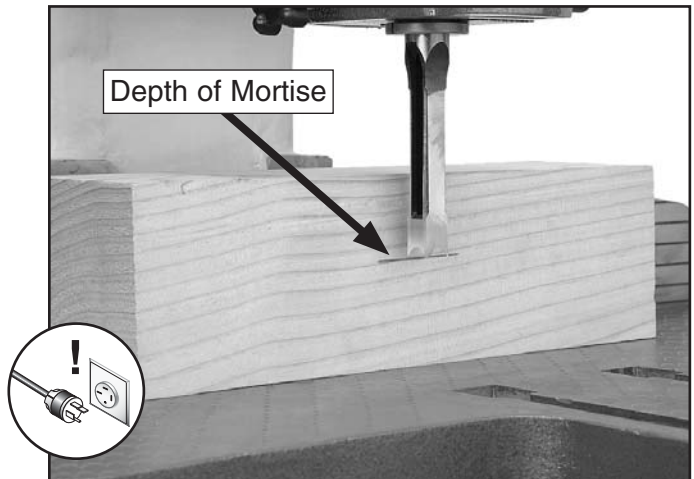

Figure 19. Positioning the chisel with the workpiece for adjusting the correct depth of stop.
4. Position the table and workpiece so that the installed chisel can be lowered in front of the workpiece, then bring the chisel down so that the chisel points are even with the mark made in **Step 2** (see **Figure 19**).